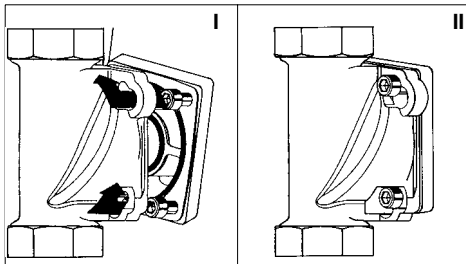

Fig. 4: Built-in rotary flange with Bayonet Fixture
(see fig.4)
- Insert the four flange screws in the bayonet drill holes on the built-in rotary flange (see Fig. 4 I).
- Turn the filter in a clockwise direction as far as it will go (see Fig. 4 II).